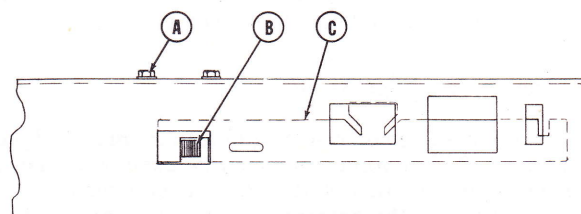

Figure 7
Remove amplifier chassis from case. Just above toggle on front of amplifier are two nuts (A) (See Fig. 7). Loosen these two nuts. Press the "Rewind" button to the bottom. Pull toggle of (B) to extreme right on switch assembly. Position entire switch assembly with left side of toggle just touching the latch bar (C) as shown in Fig. 7, then tighten the two nuts (A).